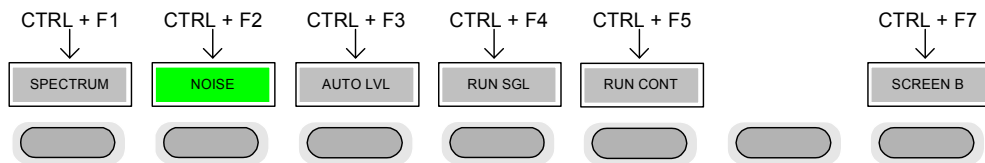

Fig. 1-5 Quick Access to Hotkeys
CTRL keys Used to activate hotkeys. Each of the seven hotkeys is allocated a different function (F) key. To access these hotkeys press CTRL and the corresponding F key together (see Fig. 1-5):